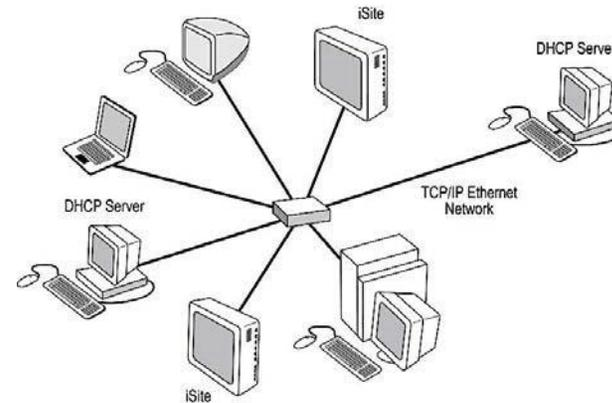
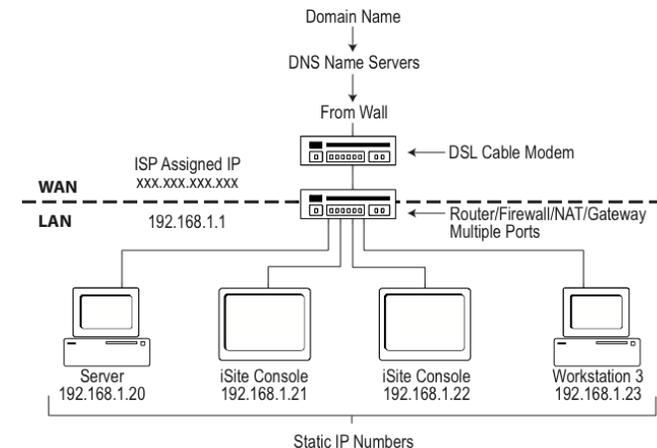

Figure 2-1 Dynamic Host Configuration Protocol (DHCP)
Figure 2-2 Static IP
When a PC logs onto a network, it obtains an Internet Protocol (IP) address in one of two ways by Dynamic Host Configuration Protocol (DHCP) (Figure 2-1 Dynamic Host Configuration Protocol (DHCP)) or by Static IP (Figure 2-2).